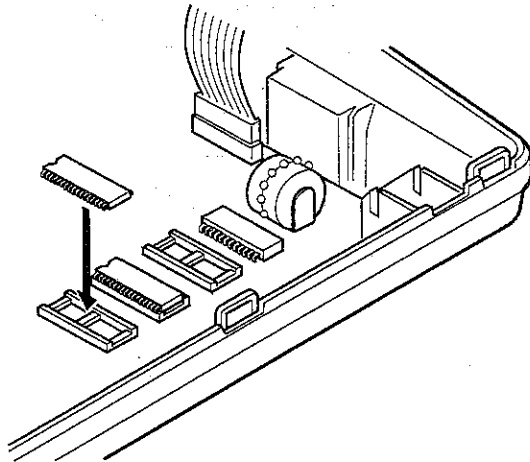

Fig. 1
- 2) Insert the control ROM in the IC socket ROM2 on the main PWB (Fig. 1).